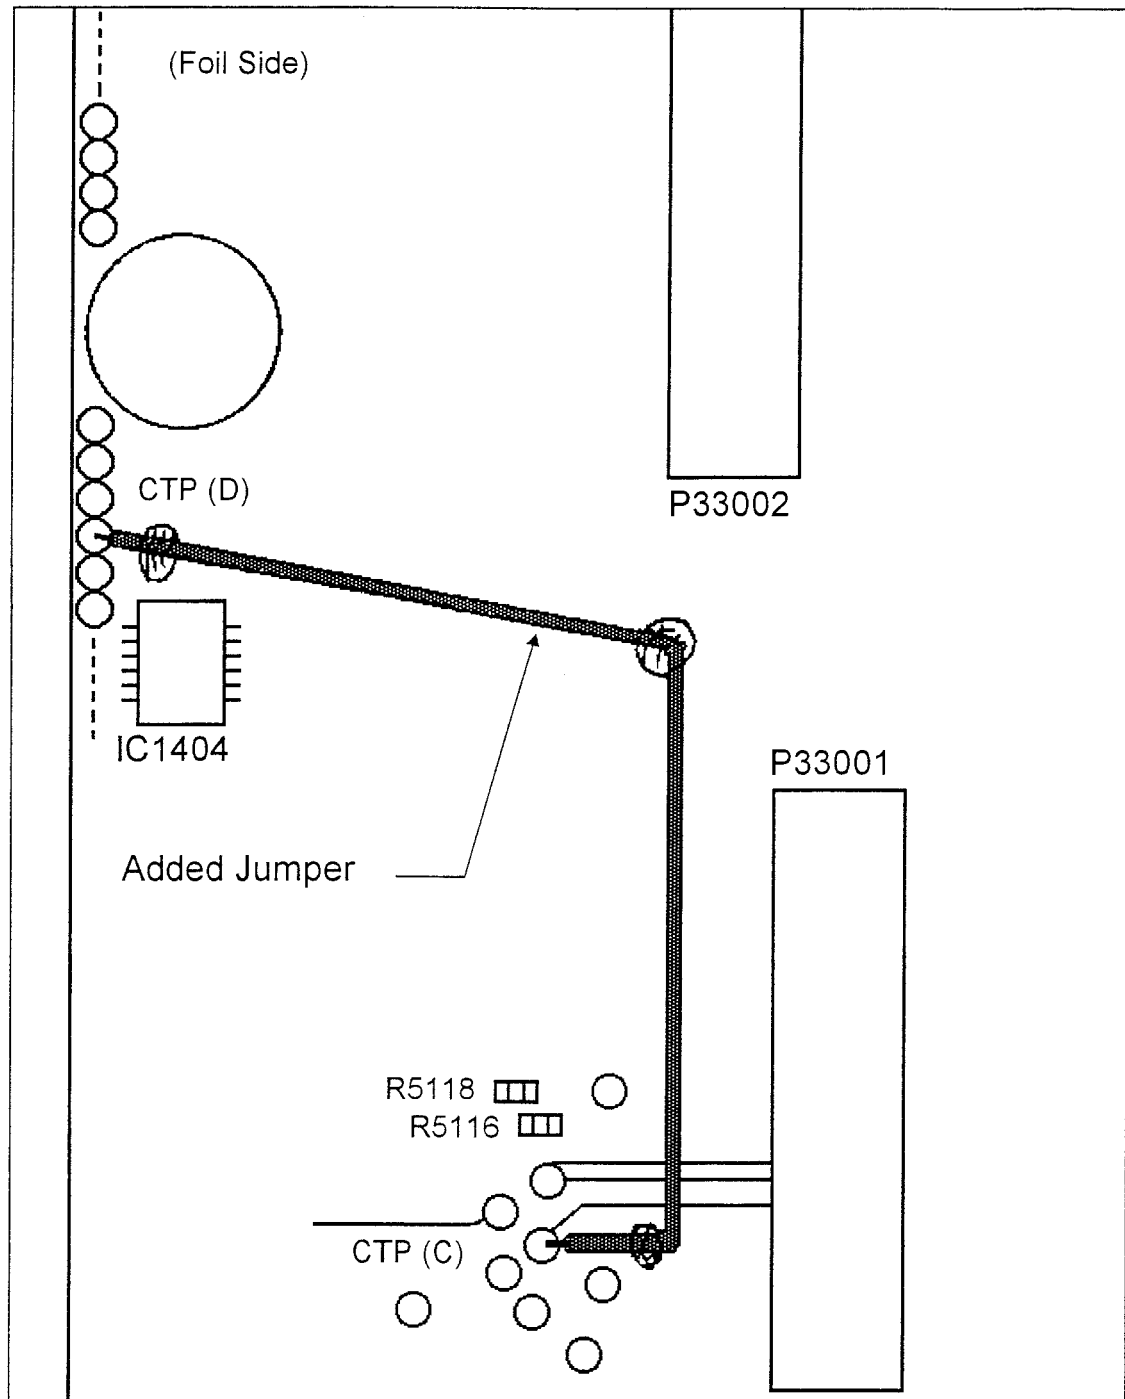

Fig. 2 Page 3-2 (H~J-1)
1. Connect a jumper wire between the CTP (C) (near P33001) and CTP (D) (near IC1404) on the foil side as shown in figure 2.